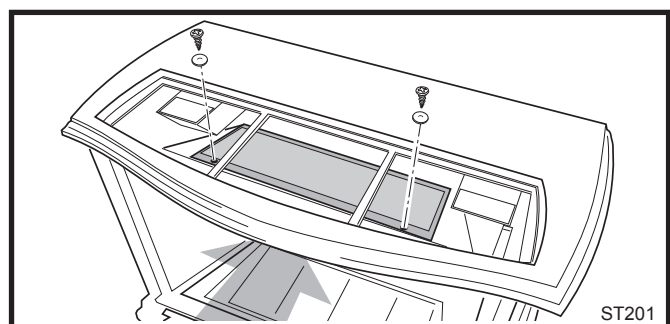

Fig. 20 Install catalytic combustor.
7. Slide catalyst between top plate and firebox. Allow catalyst to "fall" into hole on top of firebox. Secure with two screws as shown in Figure 20.